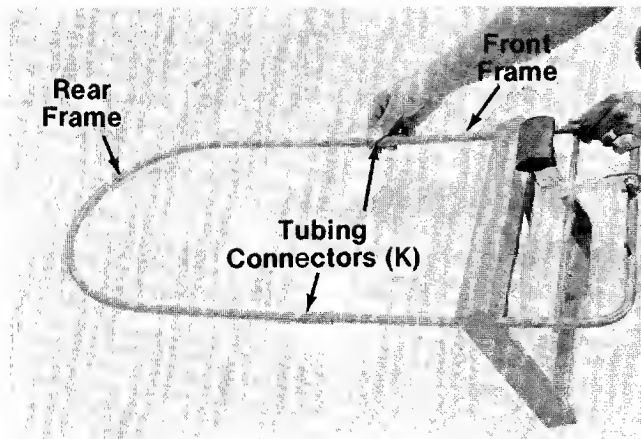

FIGURE 7.
- ← 1. Push the tubing connectors (K) onto the ends of the rear frame. Slip the ends of the front frame into the other ends of the tubing connectors. See figure 7.